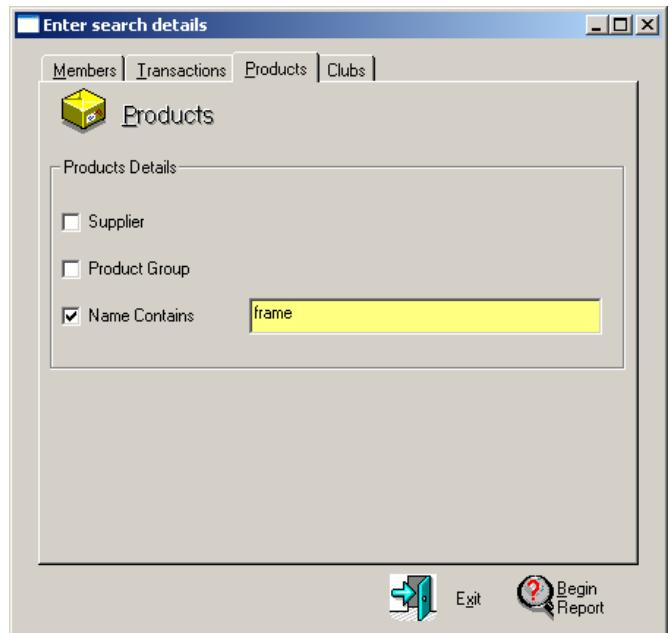

Figure 412
- The third tab in Club Analysis enables you to search for transactions filtered by products sold (see Figure 412).
Note: To identify all club members who have purchased a photo frame search on the word 'frame' in Name Contains, as shown (in Figure 412).